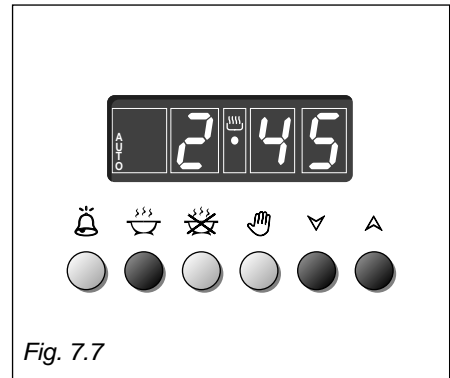

Fig. 7.7
1. Set the length of time you need to cook the food by pushing the  button and the  button to advance, or  to go backwards (Fig. 7.7). This sets the desired "stop" time.